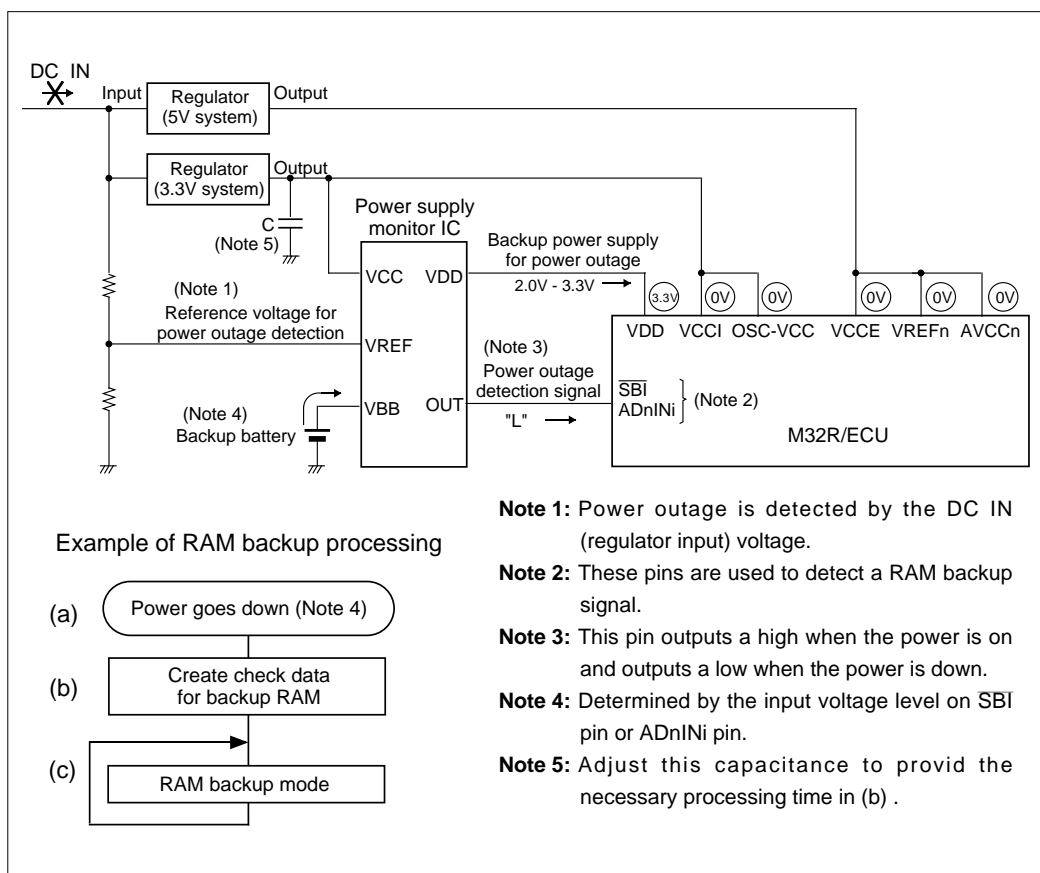

Figure 17.2.3 RAM Backup State at Power Outage
Shown in Figure 17.2.3 is the power outage RAM backup state of the M32R/ECU. When the power supply goes down, the power supply monitor IC starts feeding current from the backup battery to the M32R/ECU. Also, the power supply monitor IC's power outage detection pin outputs a low, causing the $\overline{\text{SBI}}$ pin or ADnINi pin input to go low, which generates a RAM backup signal ((a) in Figure 17.2.3). Whether the power is down or not must be determined with respect to the DC IN (regulator input) voltage in order to allow for a software processing time at power outage.
- (1) Create check data to verify after returning from RAM backup to normal mode whether the RAM data has been retained normally ((b) in Figure 17.2.3).
When the power supply to VCC goes down after settings in (1), the voltage applied to the VDD pin becomes 2.0-3.3 V and voltages applied to all other pins drop to 0 V, and the M32R/ECU thereby enters RAM backup mode ((c) in Figure 17.2.3).
Due to settings in (1) to (3), the voltage applied to the VDD pin becomes $3.3 \text{ V} \pm 10\%$ and voltages applied to all other pins drop to 0 V , thus placing the M32R/ECU in RAM backup mode ((d) in Figure 17.2.3).